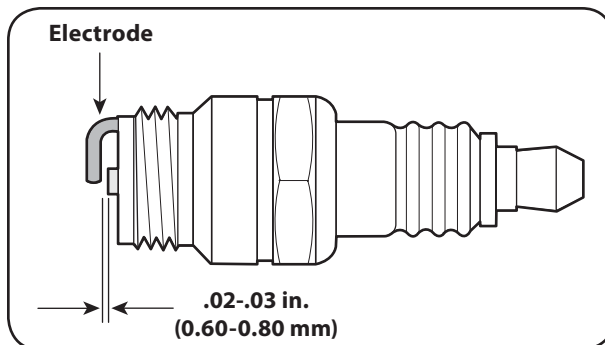

Figure 7-3
3. Measure the plug gap with a feeler gauge. Correct as necessary by bending side electrode. See Fig. 7-3. The gap should be set to .02-.03 inches (0.60-0.80 mm).